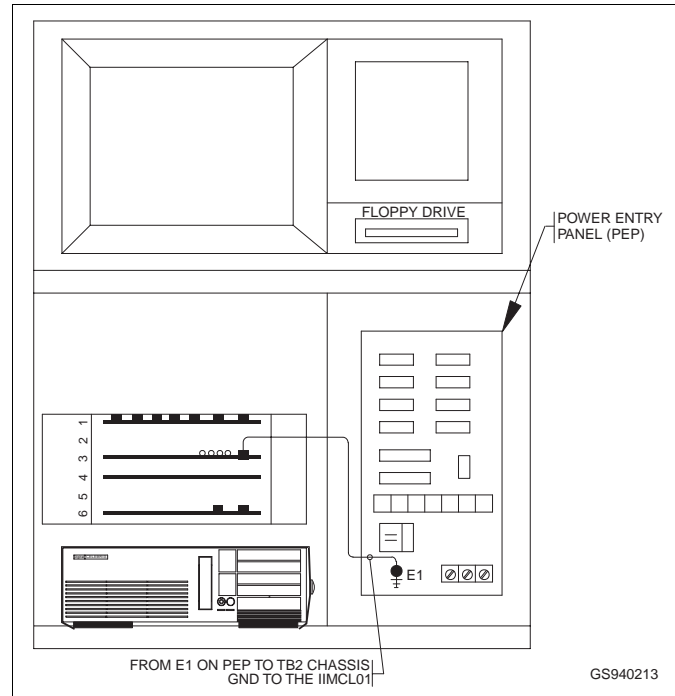

Figure 8-3. Multibus Chassis Removal
1. In the front of the cabinet, turn off the main circuit breaker on the power entry panel to shut off power to the IIOIS12. Check the power indicator to see if power is removed from the system. See Figure 8-3 when using this procedure.